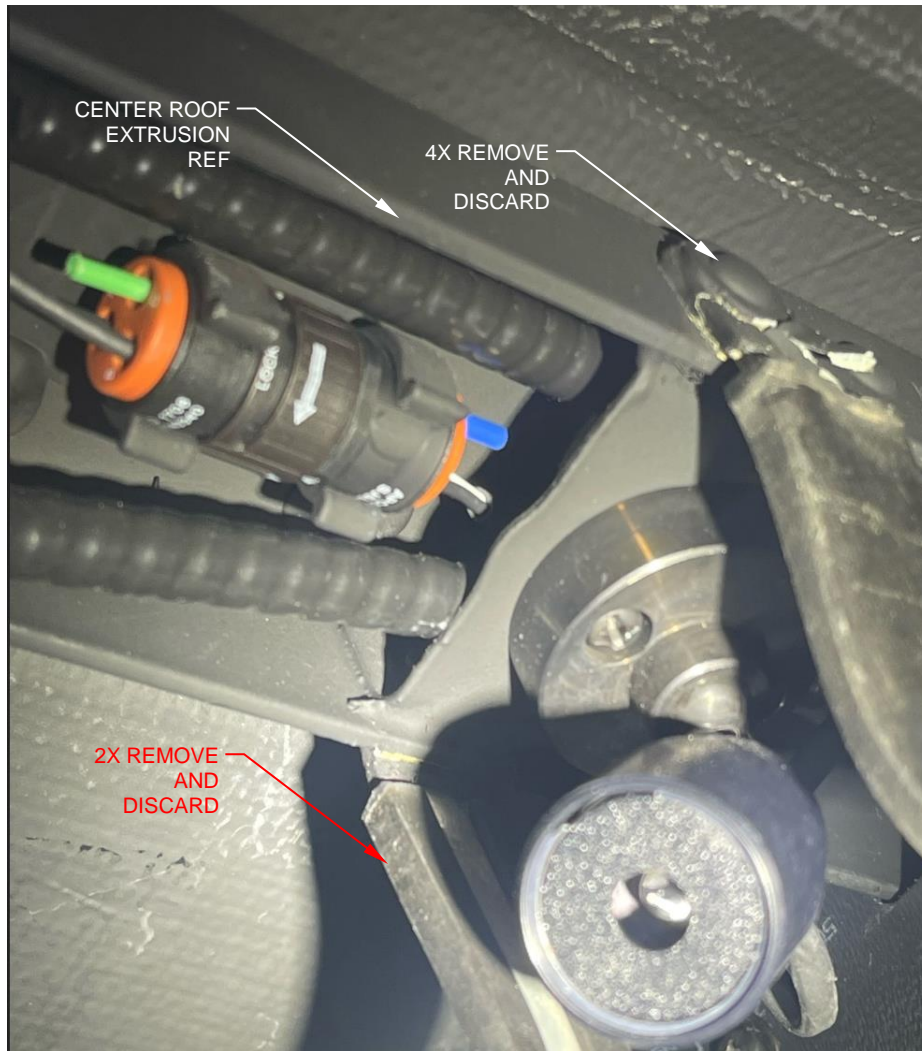

Figure 2
3. Drill out 2x rivets retaining the existing modified Adel clamps and discard. Drill out the two remaining rivets holding the lamp fitting. See Figure 2.